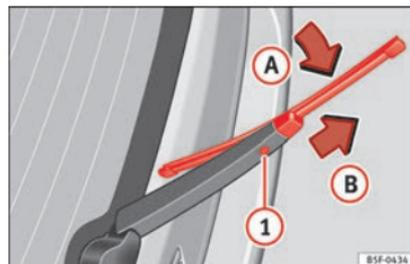

Fig. 80 Changing the rear wiper blade
- Pull the wiper blade out of its mounting on the wiper arm » » Fig. 80 (arrow A).
- Hold down the release button » » Fig. 80 ❶ while gently pulling the blade in the direction of arrow B. This may require some strength.
- Insert a new blade of the **same length and type** in the wiper arm in the opposite direction to the arrow » » Fig. 80 B and hook into place. This feature is operational when the knob is in position (arrow A).